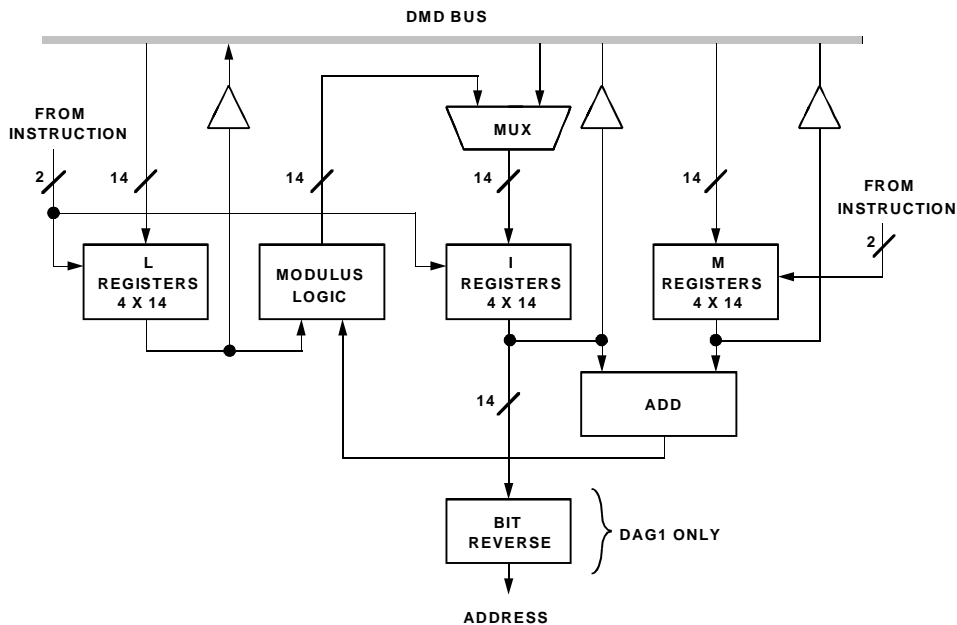

Figure 4-1. Data Address Generator Block Diagram
Figure 4-1, shows a block diagram of a single data address generator. There are three register files: the modify (M) register file, the index (I) register file, and the length (L) register file. Each of the register files contains four 14-bit registers that can be read from and written to via the DMD bus.